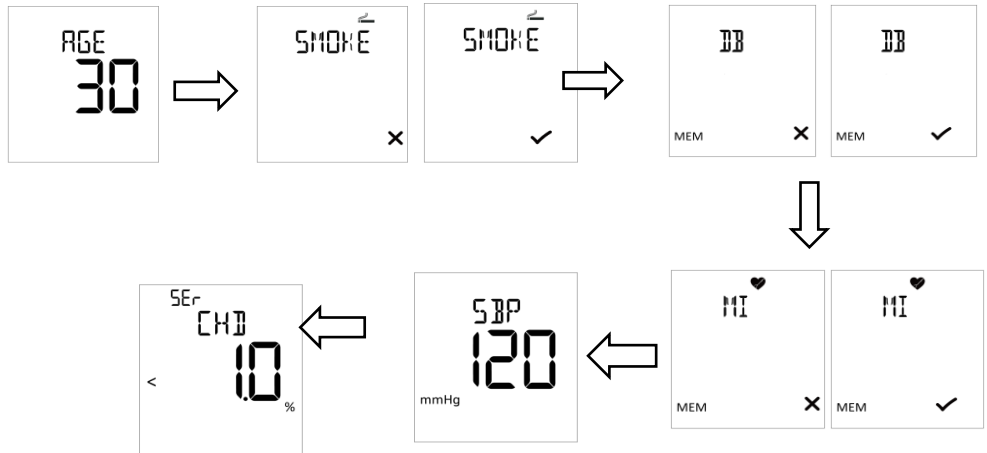

Fig 5.52
• PRO method: age, smoking status(\*or✓), history of diabetes(\*or✓), myocardial infarction(\*or✓), systolic blood pressure should be confirmed, after sequential selection, the assessment of CHD results are display.(Ref Fig 5.52)